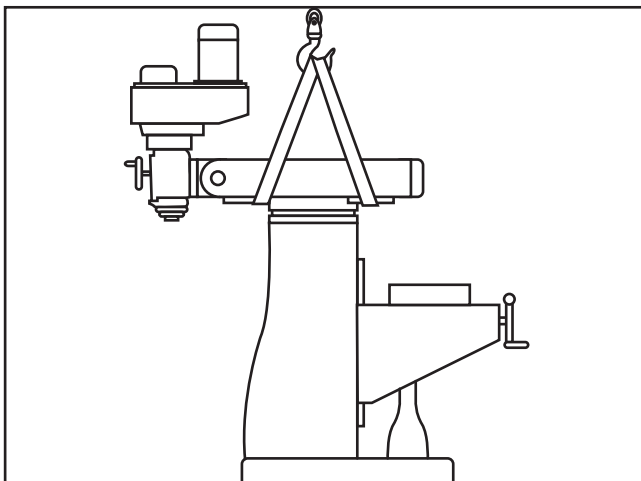

Figure 5. Illustrated example of using lifting to move the mill.
2. Rotate the ram 180° so the headstock is facing backwards (see **Figure 5**), then rotate the head upright.
3. Place the lifting straps under the ram and connect them to the safety hook, as illustrated in **Figure 5**.